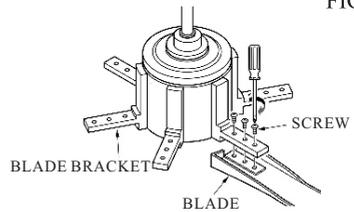

FIG.3
1. Attach each blade assembly to the blade bracket using the blade screws. Tighten them securely (see Fig.3)